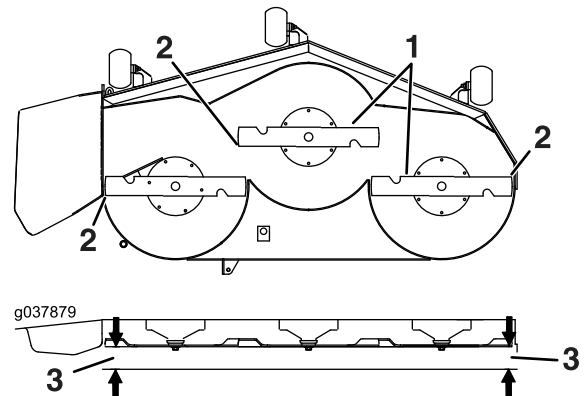

Figure 101
6. Measure between the blade tip and the flat surface (Figure 101). If both measurements are not within 5 mm (3/16 inch), adjust the leveling; continue with this procedure.
14. Carefully rotate the blades side to side (Figure 101).